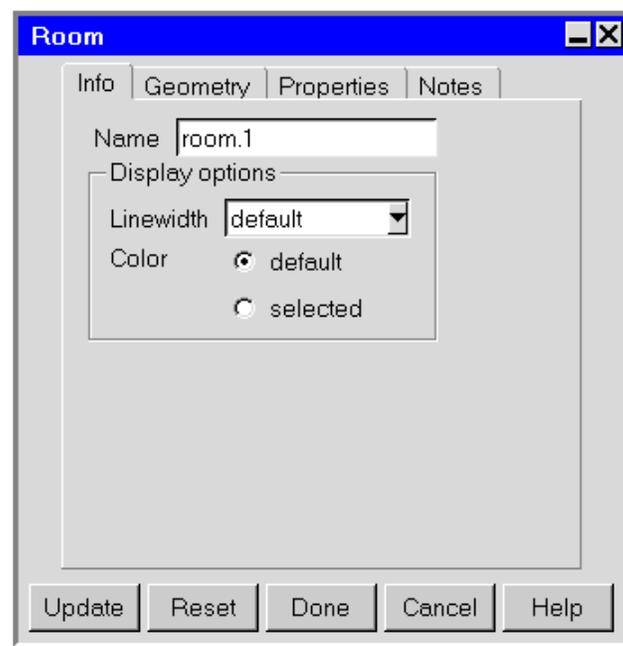

Figure 7.2.2: The Room Panel (Info Tab)
Each option is described in detail below. Click the **Apply** button to modify the room to reflect any changes you have made to the text entry fields in the room **Edit** window. Click the **Reset** button to undo all the changes you have made to the text entry fields in the panel and to restore all text entry fields in the panel to their original states. Click the **Edit** button to open the **Room** panel (Figures 7.2.2–7.2.5).
- Specify the dimensions of the room in the **Room** panel (Figures 7.2.2–7.2.5). To open this panel, double-click on the **Room** item under the **Model** node in the **Model** manager window.
Airpak allows you to change the name of the room. The name of the room is displayed in the Name text entry box in the Room panel (Figure 7.2.2).
The **Color** of the room in the graphics window is shown as **default** in the **Room** panel (Figure 7.2.2). The color that will be applied to the room when **default** is selected is defined in the **Object types** section of the **Preferences** panel (see Section 6.3.6 for more details on changing the default color using this panel). To change the color of the room, select the **selected** option next to **Color** and click on the square button to the right of the **Color** text field. A color palette menu will open. You can select the new color in the color palette menu. To select a different color, click on the icon in the lower right corner of the palette menu. Select a new color using the method or panel that is appropriate to your system.
The **Linewidth** of the room in the graphics window is shown as **default** in the **Room** panel (Figure 7.2.2). The width of the line used to display the room when **default** is selected is defined in the **Graphical styles** panel (see Section 6.3.6 for more details on changing the default line width using the **Graphical styles** panel). To change the width of the line for the room, select one of the options in the drop-down list next to **Linewidth** (**default**, 1, 2, 3, 4, or 5). Click **Update** at the bottom of the **Room** panel to change the width of the line for the room in the graphics window.